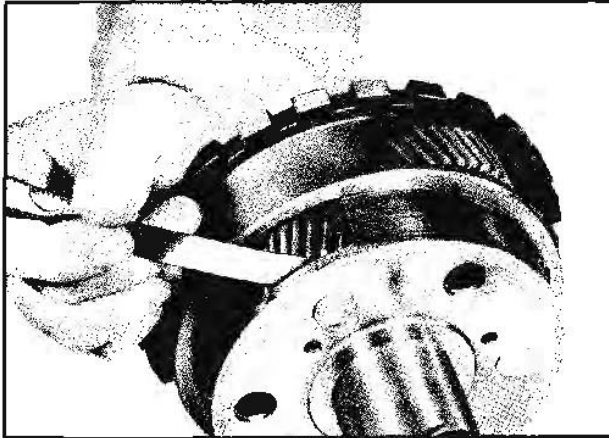

Fig. 7B-85 Checking Planet Pinion End Clearance
3. Check end clearance of planet pinions. This clearance should be .006"-.030" (Fig. 7B-85).